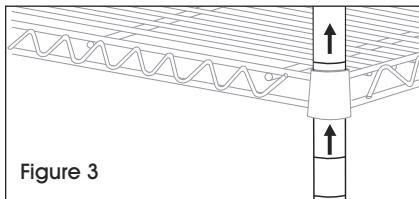

Figure 3
3. Slide post through underside of shelf until shelf slides firmly over supports. (See Figure 3)